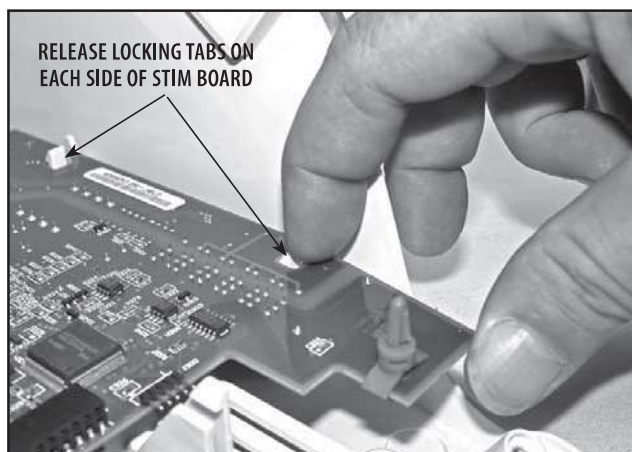

FIGURE 6.38
8. Gently pull up on each corner and release the plastic retaining tabs holding the Stim Board in position. **See Figure 6.38.**